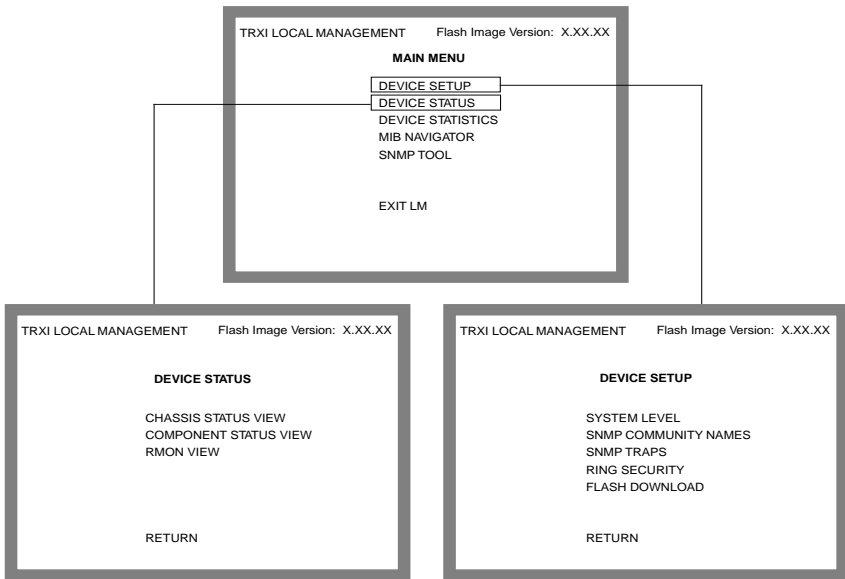

Figure 5-4. Local Management Menu Screen
3. If your password is valid, the Main Menu screen shown in Figure 5-4 appears. If your password is not valid, the cursor returns to the beginning of the password field.
Menu screens list TRXI Local Management options. Figure 5-4 shows the menu screens and each Local Management option. The following sections explain how to select and use each of the Local Management options.